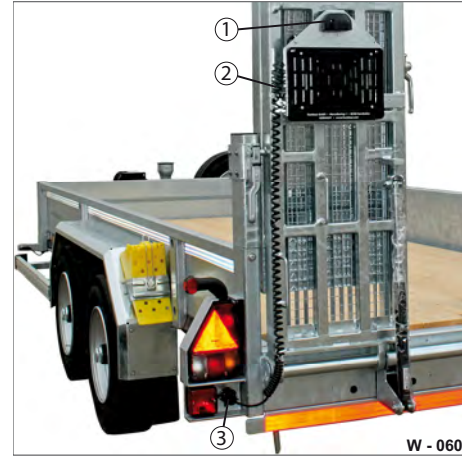

Fig. 59 Cable connection
- ▶ Release the plug (Fig. 59/3).
- ▶ Check the spiral cable (Fig. 59/2) for damage.